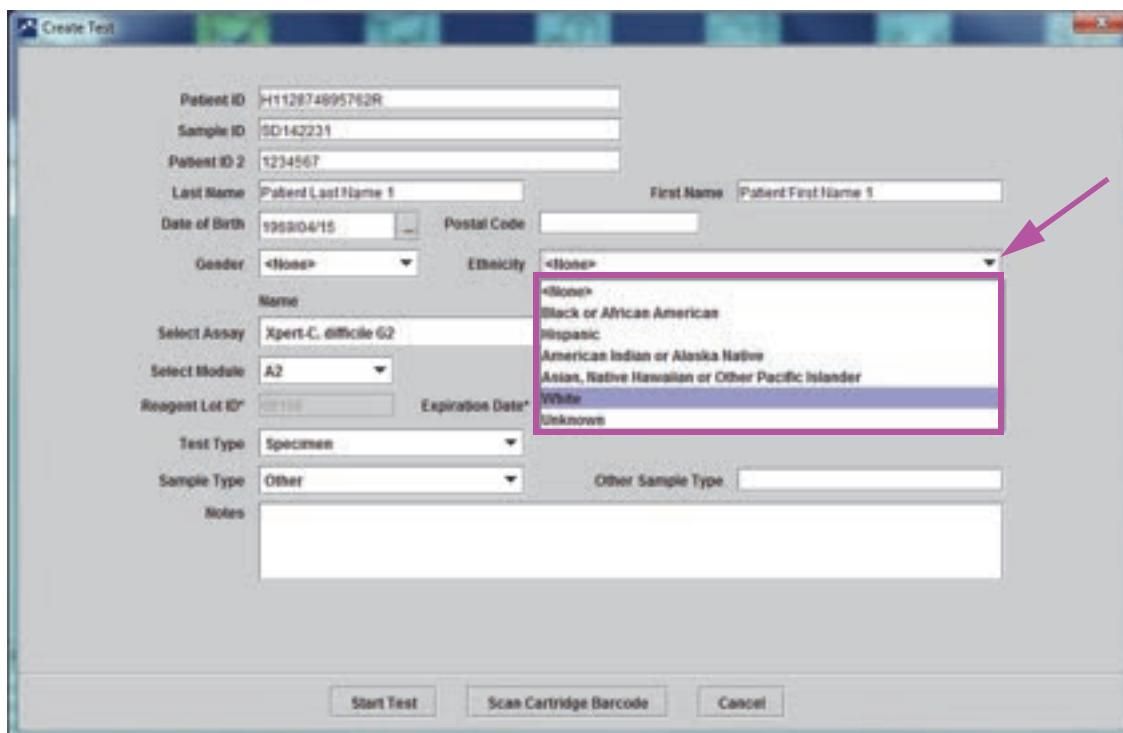

Figure 5-25. Create Test Dialog Box with the Ethnicity Field Shown
- B. **Ethnicity**—Click the drop-down arrow in the **Ethnicity** box and select the appropriate ethnicity from the drop-down menu (see Figure 5-25).